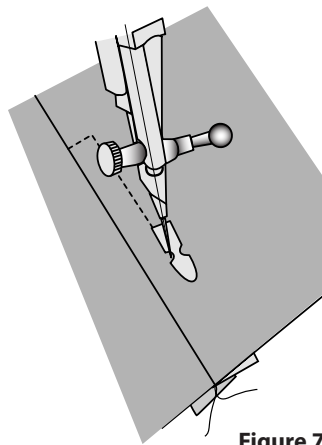

Figure 7
6. Working from the right side, stitch across the bottom of zipper beginning at the seam line. Pivot at the corner with the needle in the fabric, and stitch up alongside zipper. (Figure 7)